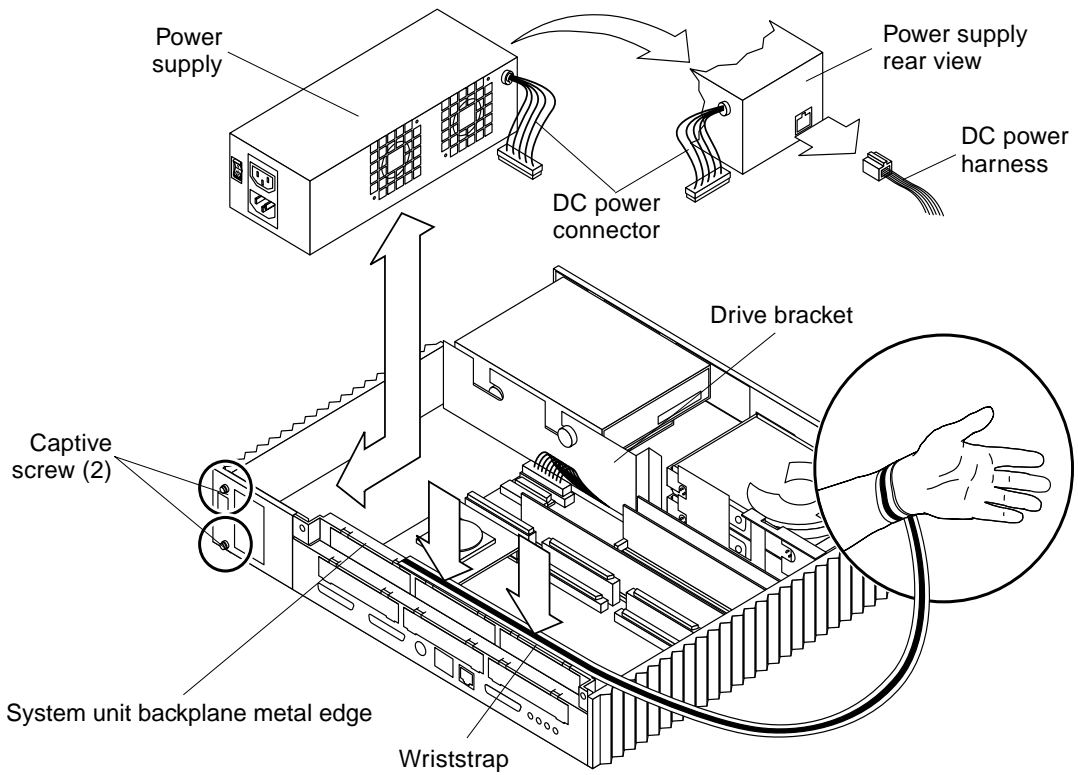

FIGURE 8-1 Attaching a Wrist Strap to Back Panel and Removing the Power Supply
4. **Remove the power supply as follows (FIGURE 8-1):**